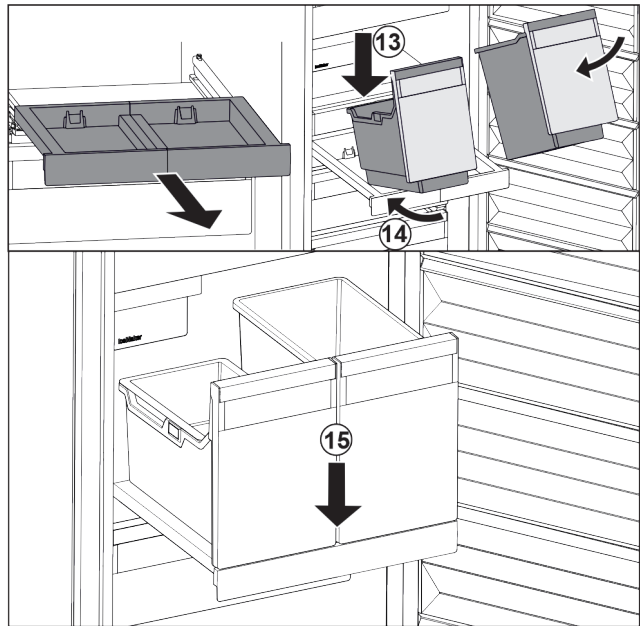

Fig. 39
- ▶ Place the container at an angle on the pull-out board. *Fig. 39 (13)*
- ▶ Slide the container to the back at an angle. *Fig. 39 (14)*
- ▶ Place container in the front. *Fig. 39 (15)*